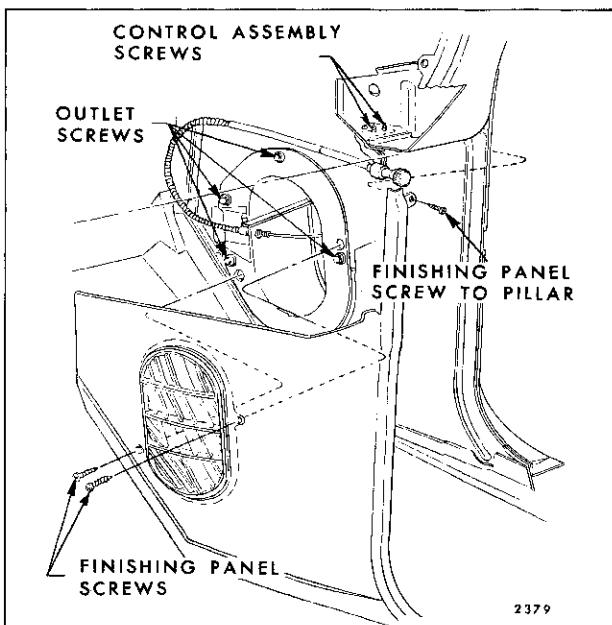

Fig. 5-2—Shroud Side Finishing Panel —
2. Remove finishing panel to hinge pillar attaching screw (Fig. 5-2).
3. Remove screws securing the shroud side finishing panel to the air outlet duct assembly (Fig. 5-2).
3. Remove screws securing outlet duct assembly to shroud ventilator duct side panel (Fig. 5-2) and remove assembly.
4. Remove screws securing control assembly to instrument panel (Fig. 5-2) and remove control assembly.